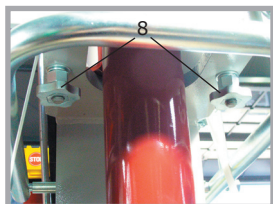

Abb. 8
2. Remove (unscrew) both pommel grips (Pos. 8, Fig.8)
5. Tighten both pommel grips (Fig. 8) again,
3. Remove (unscrew) the pommel grips (Fig. 8)